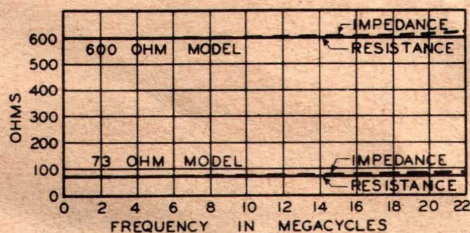
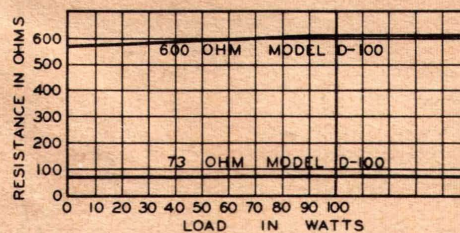

FIG. 1—R AND Z VERSUS FREQUENCY
FIG. 2—R VERSUS WATTS LOAD
The curves in Figures 1 and 2 show the frequency and load characteristics of the Model D-100 and serve to indicate the marked superiority of the Ohmite Model D-100 to other forms of resistors heretofore used for high frequency work. The radio frequency resistance of a Model D-100, it can be noted, is practically constant at all frequencies up to and even beyond 15 megacycles. The impedance also rises only very slightly with increase in frequency, changing less than 10% at 15 megacycles. The curves in Figure 2 illustrate the slight change in resistance with load of the Model D-100. Contrast this with the lamp bulbs, which have been heretofore used as the best loads available for high radio frequency use, where the change in resistance from no load to full load amounts to approximately 12 times for a tungsten lamp and 2 times for a carbon lamp. The constant impedance and resistance of the Ohmite Model D-100 insures that the impedance match is maintained at all loads and that the R.F. power can be simply calculated using Ohm's Law, knowing the current and the Dummy resistance.
10. To serve as a non-inductive, non-capacitive resistor in other R.F. circuits. (See Figures 1 and 2 for characteristics.)